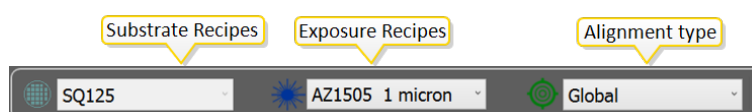

Figure 3-136 Quick selection bar
14. Select alignment type **Global** in the quick selection bar, see **Figure 3-136** below.